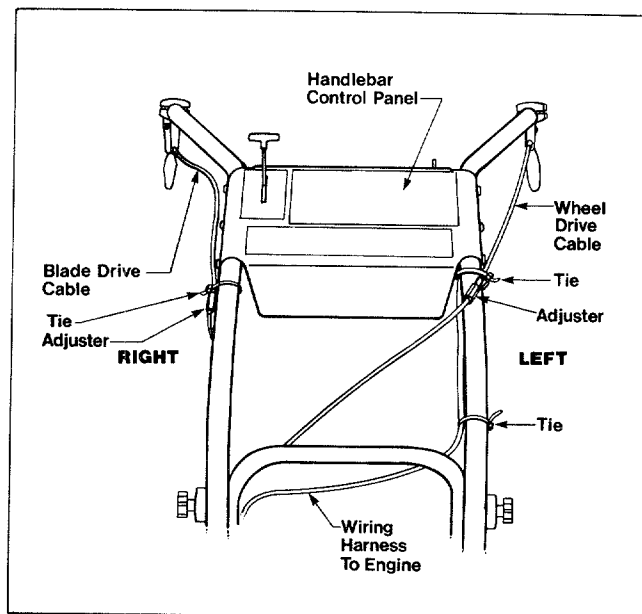

Figure 2-15: Attaching the tie straps (electric start models).
6. Secure the upper part of the wiring harness to the left-hand handlebar tube (above the lock clamp) with a wide tie strap as shown in Figure 2-15. Make sure that the serrated side of the strap faces in when you loop it around the handlebar. After tightening the strap, snip off any excess length.
7. Use another wide tie strap to secure the Wheel Drive Cable and the wiring harness to the left-hand handlebar tube below the handlebar's control panel as shown in Figure 2-15. Make sure that the tie strap is located ABOVE the cable adjuster.
8. Use another wide tie strap to secure the Blade Drive Cable and the throttle cable to the right-hand handlebar tube as shown in Figure 2-15. Make sure that the tie strap is located ABOVE the cable adjuster.